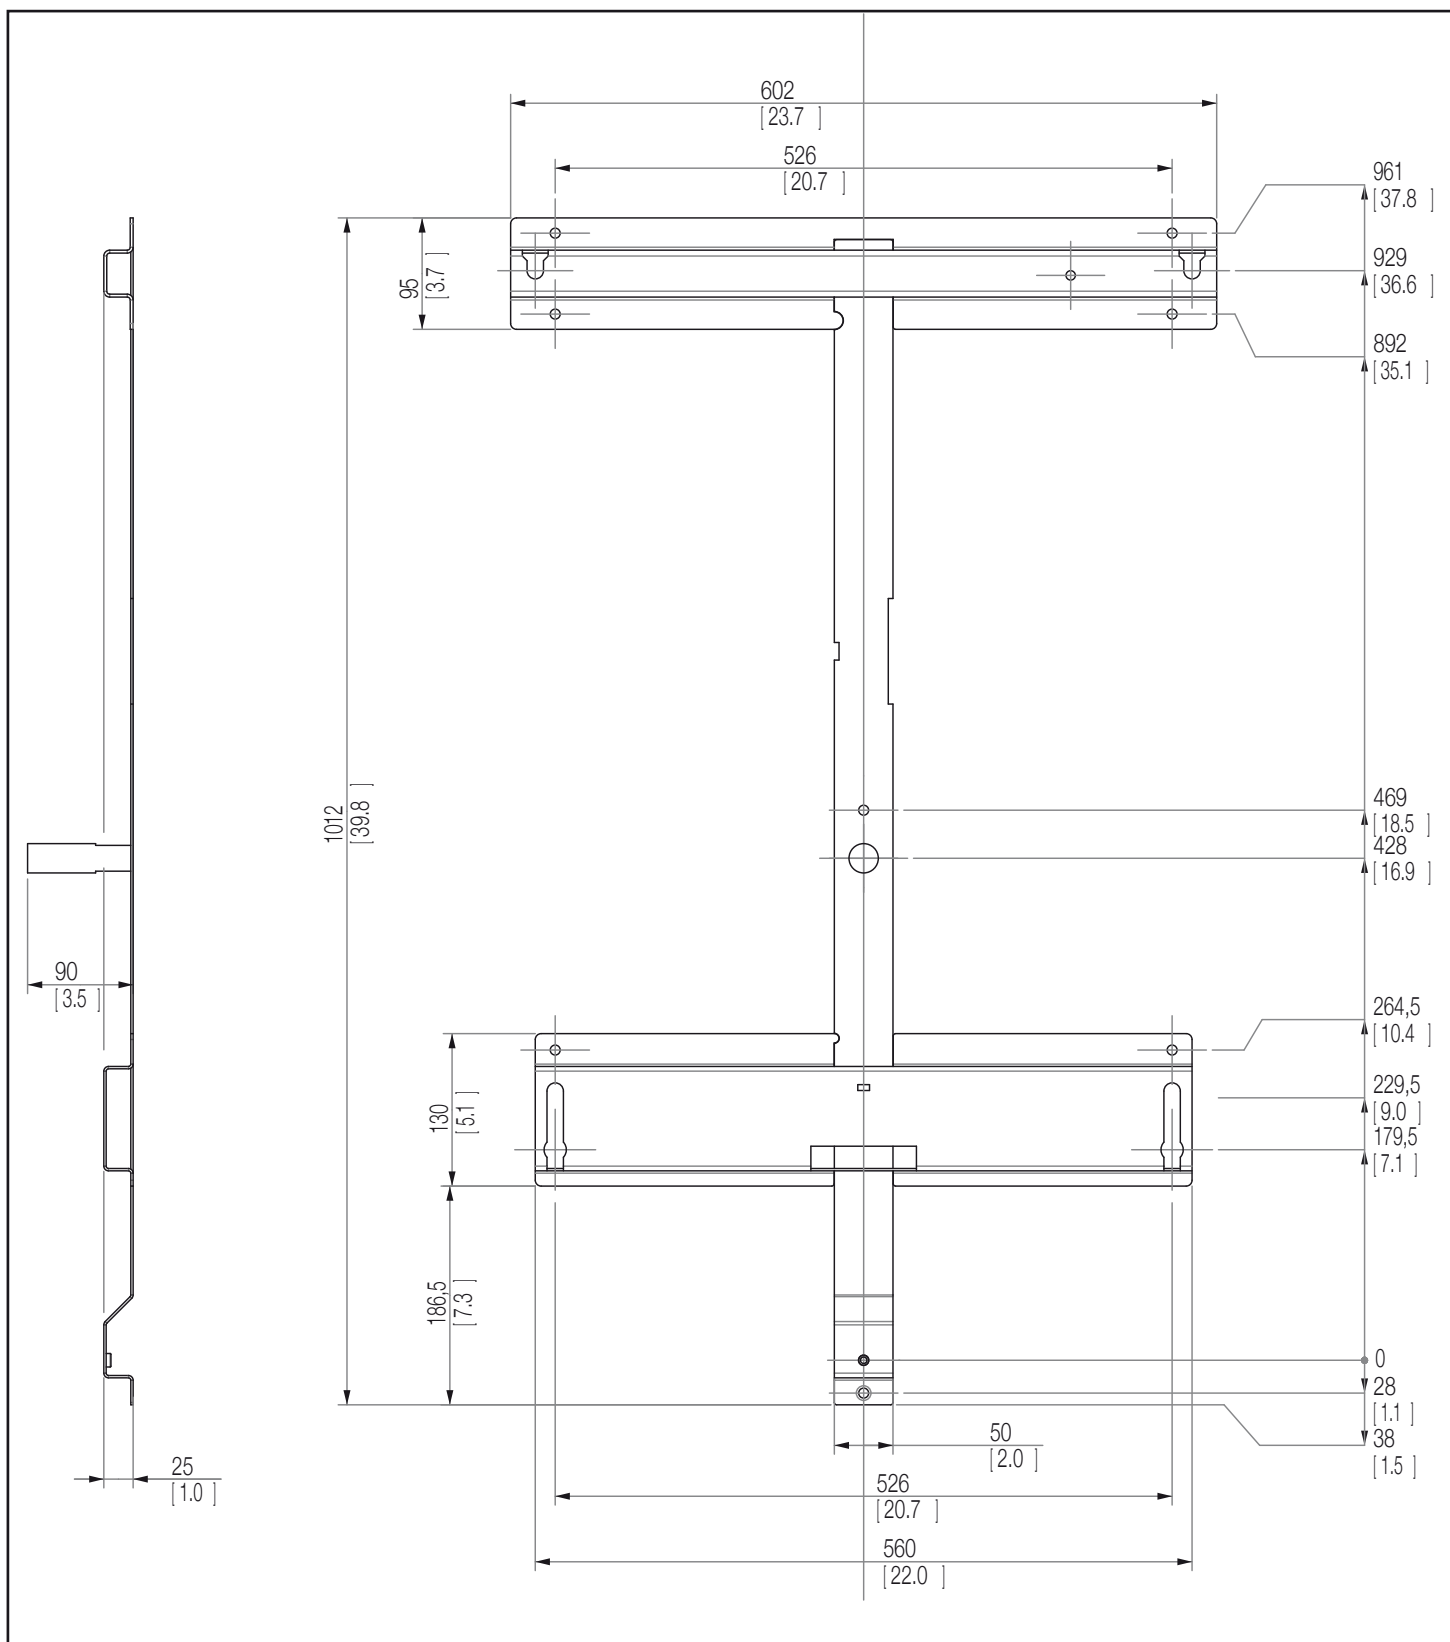

Figure 1 - new mounting bracket dimensions
1. The TRIO may be packaged with the new mounting bracket (see Figure 1 below) — (refer to page 25 of the current TRIO manual or section 3 of the current TRIO QIG).